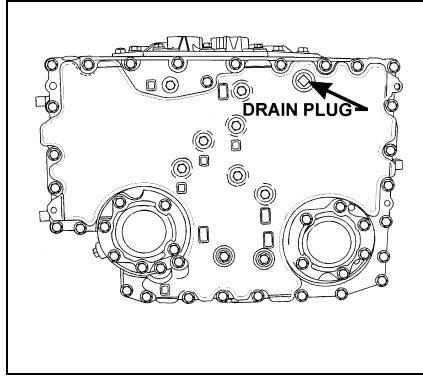

Figure 1: automatic transmission
2. Locate the drain plug under the automatic transmission (figure 1).